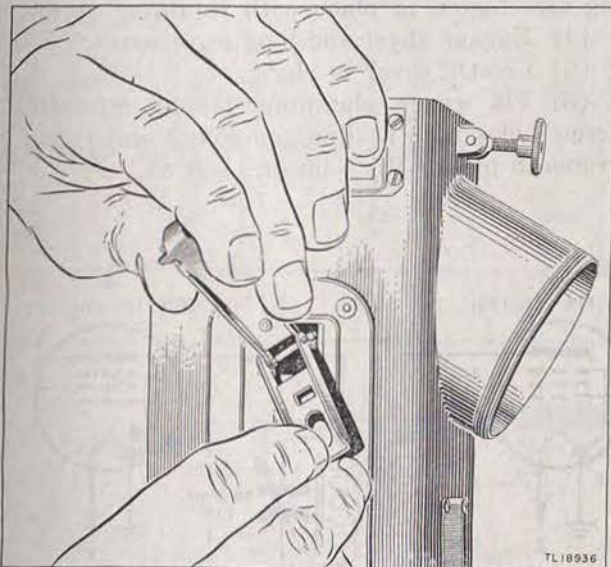

Figure 54. Removal of long lever arm assembly, Radio Receiver and Transmitter BC-611-(*).
(2) Carefully insert a small thin screw driver between cover and housing and move around contour of frame to separate cover and housing.
(3) Lift cover and frame from housing and separate.
(4) Separate short and long lever arms by depressing retaining spring and moving arms apart.
(5) Unscrew actuating linkage retaining screws.
(6) Rotate long lever arm assembly, as shown in figure 54, and lift off housing.